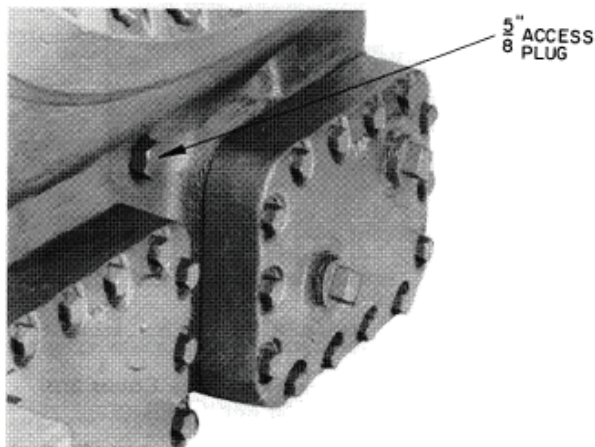
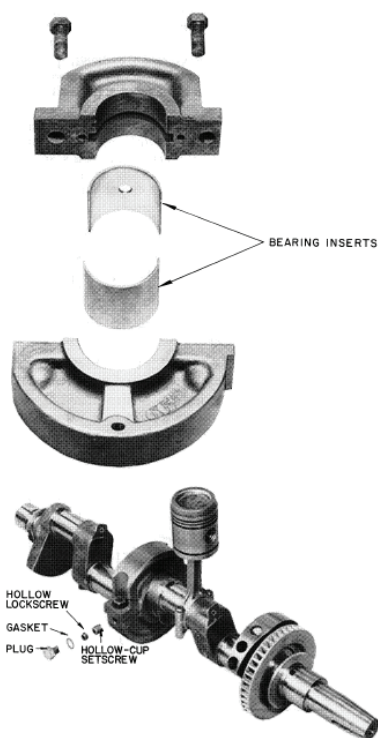

Fig. 23 — 5H80-126 Center Main Bearing Housing Setscrew Location
Fig. 24 — Center Main Bearing (5H120 and 126)
On 5H80-126 units, remove hollow-center main bearing lock screw located beneath plug (see Fig. 23) and loosen hollow-cup setscrew (see Fig. 24) until center main bearing can be slid from its support. On 5H86, 120, and 126 units, disconnect oil line to center main bearing. Remove crankshaft through pump-end opening.
2. Remove plug on compressor crankcases (refer to Fig. 23). Then remove hollow lock screw beneath the plug (refer to Fig. 24). Next, loosen hollow-cup setscrew until center main bearing assembly can be slid from its support. Remove crankshaft and bearing assembly.
3. Disassemble bearing (refer to Fig. 24) and inspect for proper tolerances (refer to Table 5).